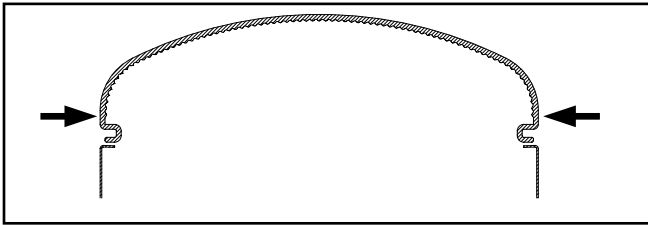

Figure 10.
- Install the lens by starting at either end (if luminaire has sensor start at end without sensor). Squeeze lens inward with both hands and guide the lens inside of the end cap and below the end cap tab. Maneuver lens inside the channel so lens groove catches the lip along channel length (Figure 10).